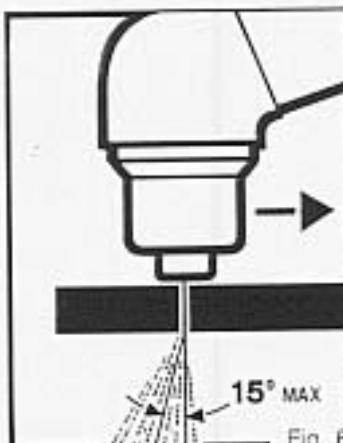
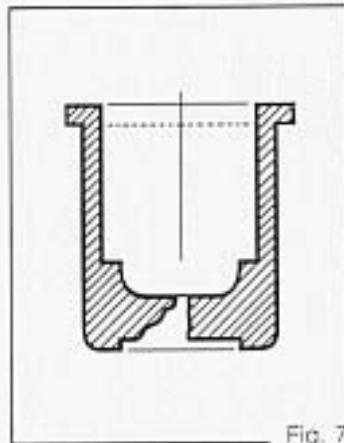

Fig. 6
Fig. 7
- high speed. Always ensure that arc fully goes through the workpiece to be cut and that its inclination is never higher than 10–15° (see fig. 6). This will prevent misuse of nozzle (see fig. 7) as well as burnings to nozzle holder (see fig. 8).